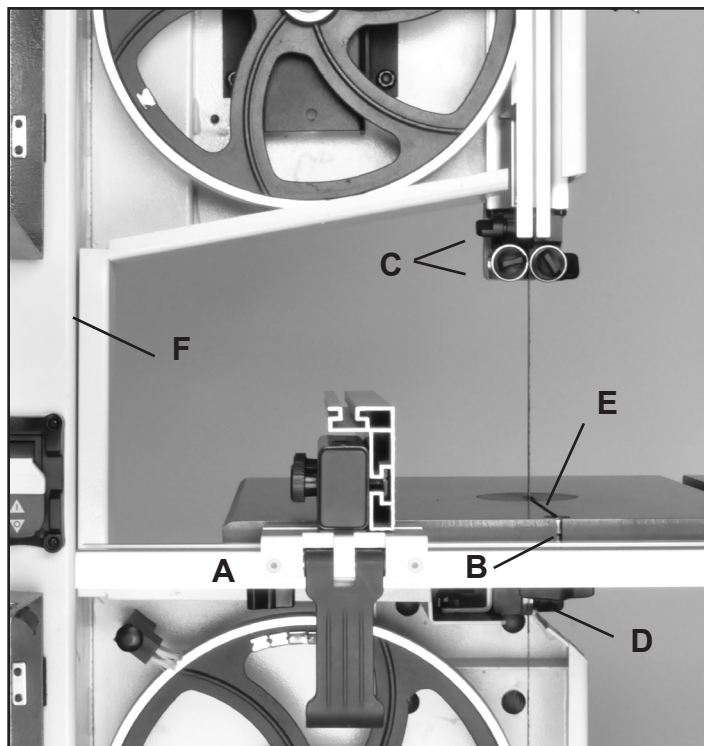

FIGURE 20
1. Remove the Rip Fence and Guide Rail from the table. FIG. 20, A.
2. Remove the Table Leveling Bolt from the blade slot at the front of the table. FIG. 20, B.
4. Move the Upper and Lower Blade Guides away from the sides and rear of the saw blade. FIG. 20, C, D. See pages 15 and 16 for details.